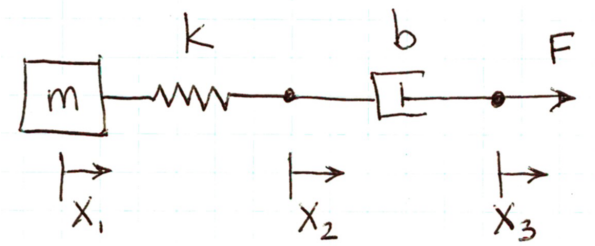

Figure 5: Spring-mass-damper system “in series”.
4.4 Spring-mass-damper in series. Figure 5 shows a system with a mass ($F = m\ddot{x}$), a spring ($F = k\Delta x$), and a damper (aka “dashpot”, $F = b\Delta\dot{x}$) connected as shown. Using Laplace notation, the impedance (relating force to velocity at location i) of each can be written as: